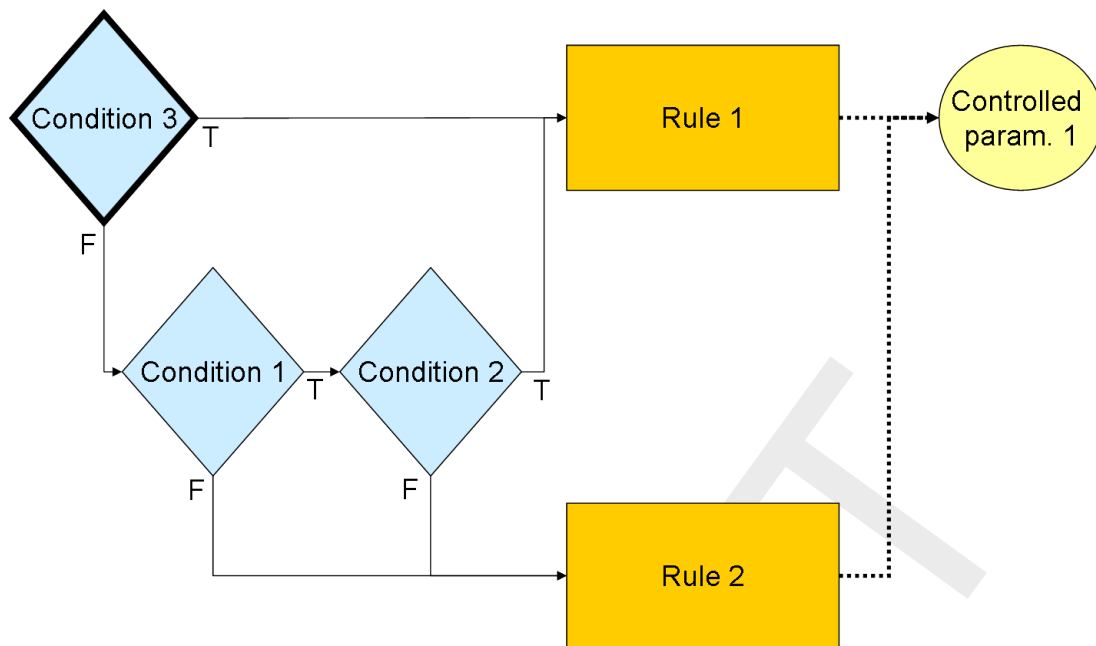

Figure 2.11: Example of three conditions: 1 OR (2 AND 3)
- ◇ 1 OR (2 AND 3) (Figure 2.11)